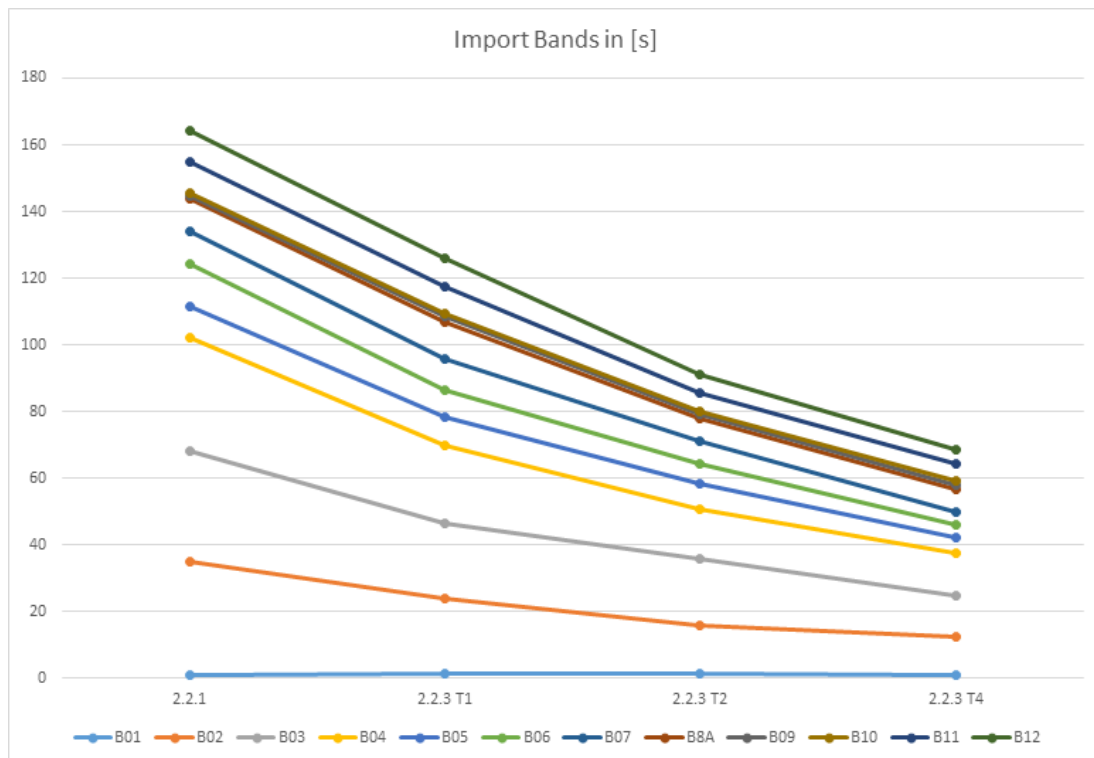

Figure 3 – Performance improvement using OpenJPEG 2.3 and multithreading
- ❖ Supporting multithreading feature for reading L1C Images with OpenJPEG. OpenJPEG, version 2.3 allows the usage of multithreading to speed up the reading of the L1C input images. The configuration is set by default to AUTO, which detects the amount of usable threads by calling `cpu_count()`. If the user does not want this feature or want to set the amount of threads individually, the parameter can be changed between a value of 1 (single thread processing) up to 8. See section 3.1.14.4. Figure 3 below shows the speed improvement for reading on a 2 Core Intel I5 platform with 8 GB of RAM between OpenJPEG 2.1 (left) and (new) OpenJPEG 2.3 with one, two and four threads applied.